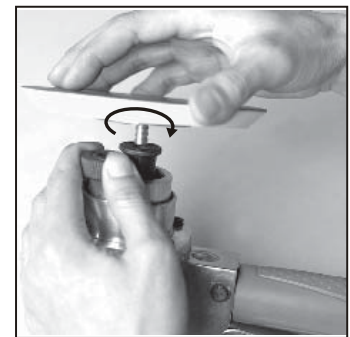

Figure 2
3. Mount the sanding pad onto the bearing seat (#46) by turning the pad clockwise by hand. Make sure that the sanding pad is tight. (See figure 2)